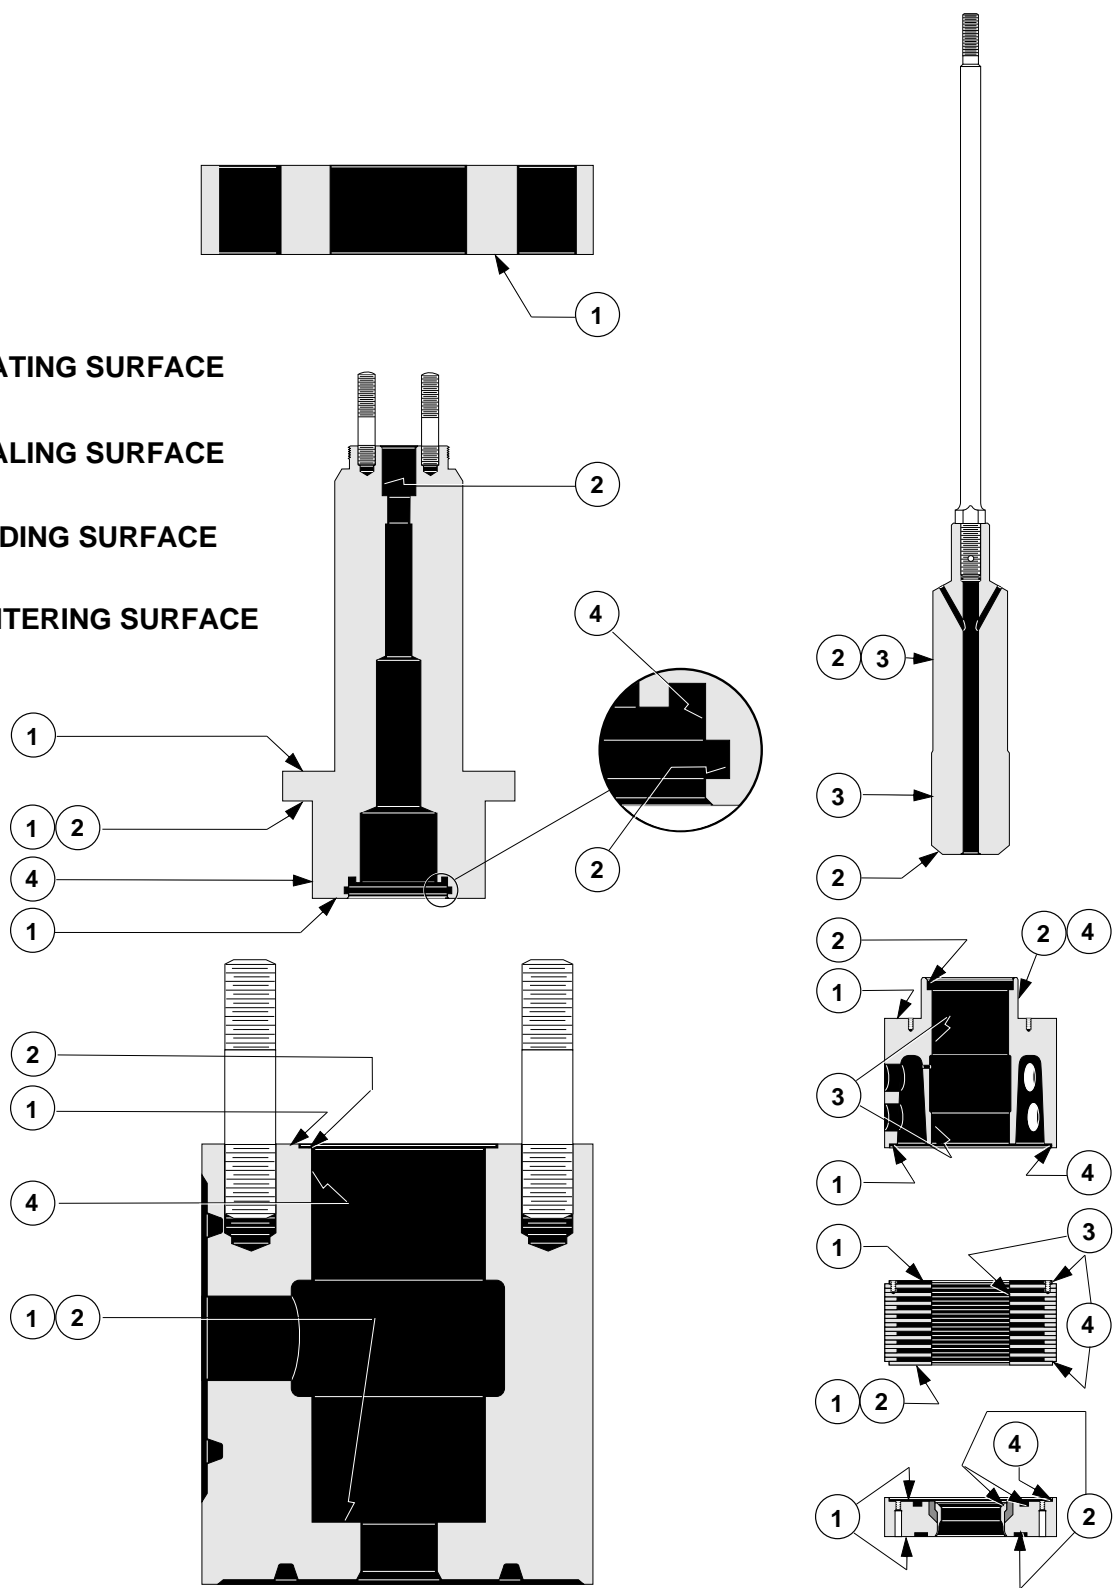

Figure 7
- A. Refer to Figure 7 and insure that all surfaces indicated are clean and free of dirt, scale or burrs.
- B. Apply several spots of a sealant or lubricant to one side of lower seat ring gasket (22) and stick the gasket in the lower groove of the seat ring (21).